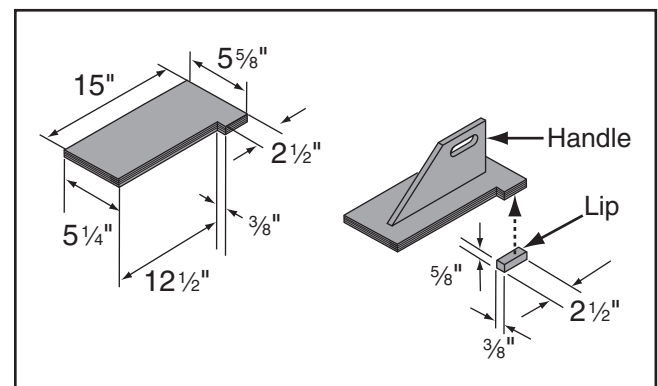

Figure 104. Push block dimensions and construction.
3. Using the $\frac{3}{4}$ " material you used in the previous steps, cut out pieces for the push block per the dimensions shown in **Figure 104**; for the handle, cut a piece 10" long by 5"–9" high and shape it as desired to fit your hand.